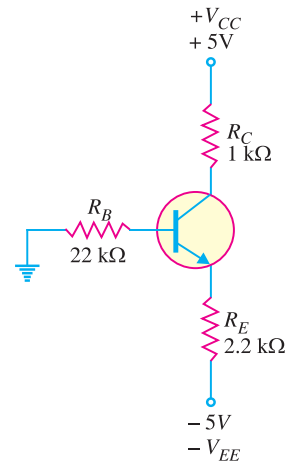

Fig. 9.55
13. To what value can R_E in Fig. 9.55 be reduced without transistor going into saturation ? [639Ω]